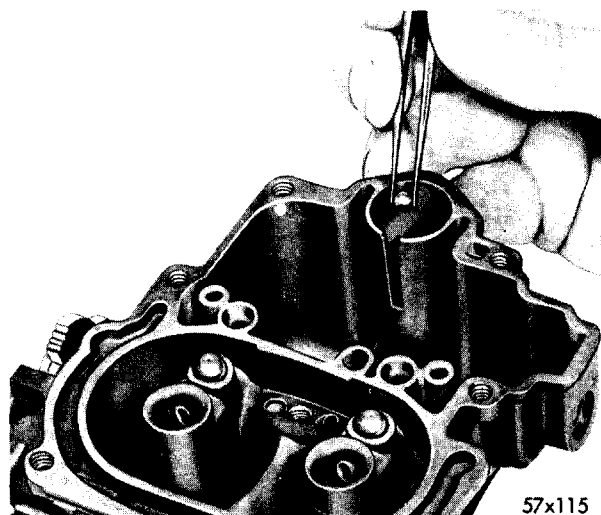

Fig. 16—Installing Accelerator Pump Check Ball
(5) Invert the carburetor and place on repair block C-3225, then install the power by-pass jet and new gaskets.
(6) Install the accelerator pump inlet check ball ($\frac{3}{16}$ inch diameter) in the check ball seat at the bottom of the pump cylinder, as shown in Figure 16.